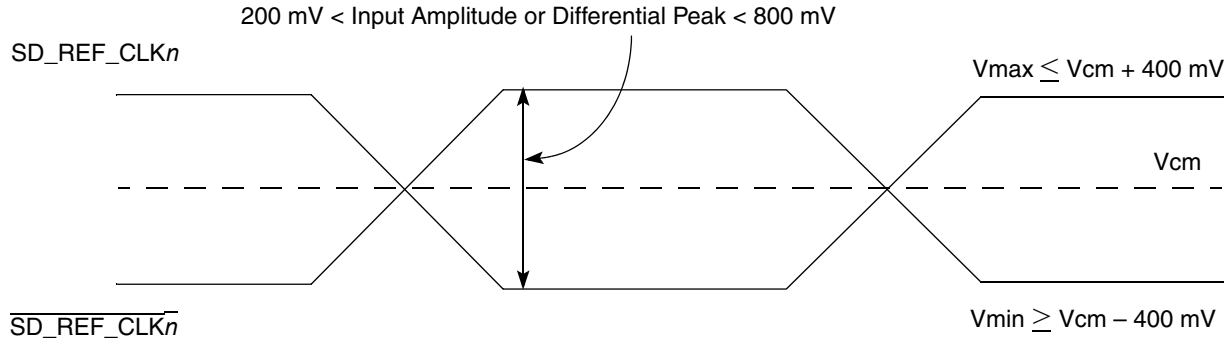

Figure 39. Differential Reference Clock Input DC Requirements (External AC-Coupled)
- For an external AC-coupled connection, there is no common mode voltage requirement for the clock driver. Because the external AC-coupling capacitor blocks the DC level, the clock driver and the SerDes reference clock receiver operate in different common mode voltages. The SerDes reference clock receiver in this connection scheme has its common mode voltage set to SGND. Each signal wire of the differential inputs is allowed to swing below and above the common mode voltage (SGND). Figure 39 shows the SerDes reference clock input requirement for AC-coupled connection scheme.